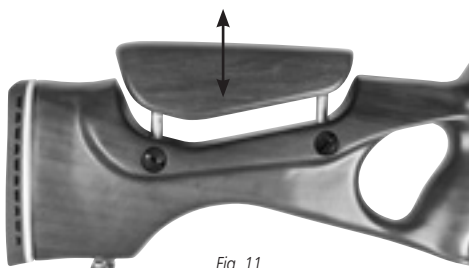

Fig. 11
**Comb Adjustment:** Hatsan Proxima is equipped with an adjustable height comb. Loosen the comb retention screws (Fig. 11), and set your desired height before tightening.